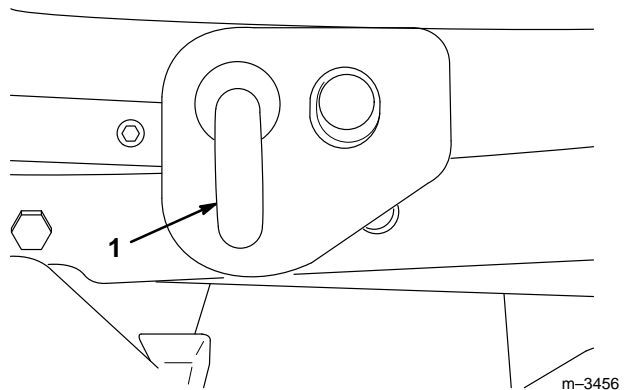

Figure 23
10. Pull the two spring-loaded J-pins from the deck lift arms and twist them slightly so that they stay disengaged (Fig. 23).